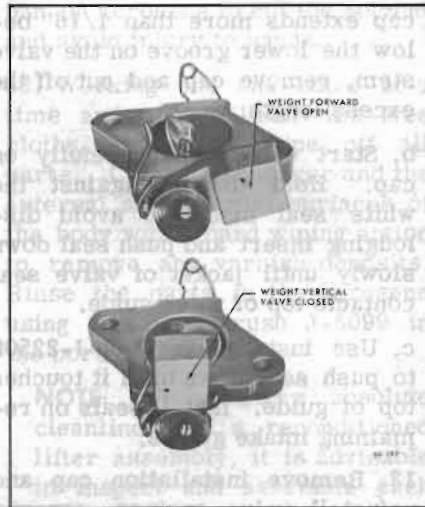

Figure 60-215—Manifold Heat Control Valve
3. Check all anti-rattle and thermostat springs for correct installation. See Figure 60-215.